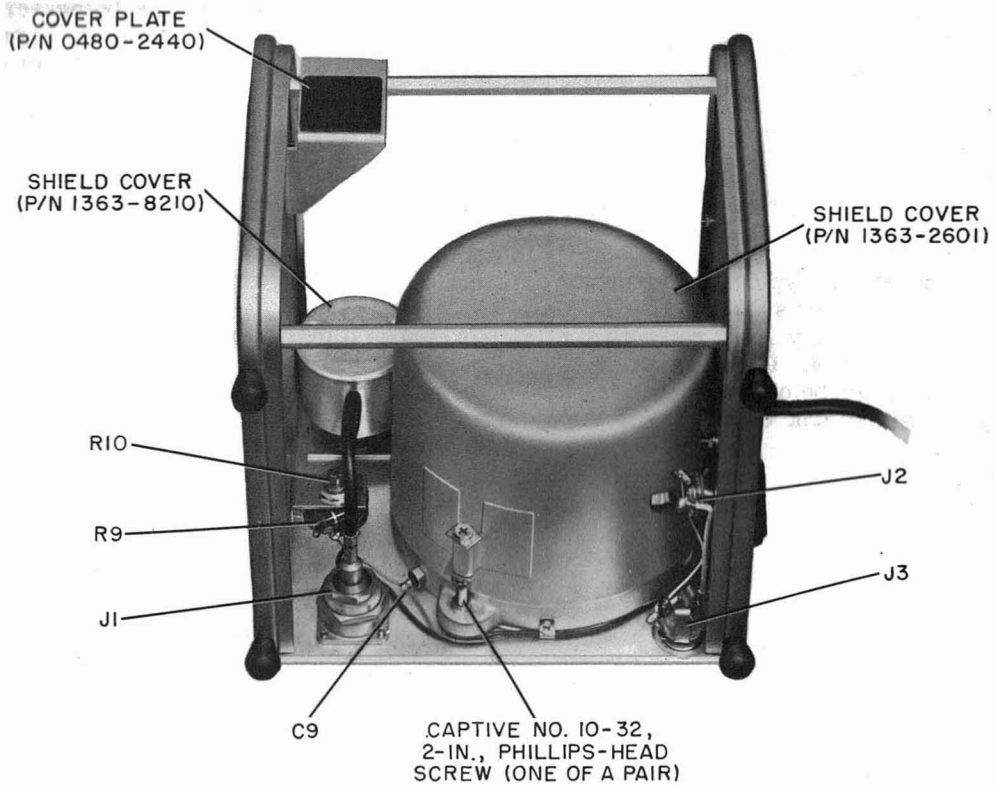

Figure 6-3. Interior bottom view with shield covers installed.
If the 1363 Oscillator performs outside of specification, as determined by use of paragraph 6.3, the procedures below can be used to isolate the trouble to a defective assembly or part. Suggestions for trouble analysis are given in Tables 6-2 and 6-3. The former is based on operating parameters, the latter on cold resistances. (Refer to Figures 6-3 and 6-4 and to the schematic diagram, Figure 6-6, at the end of the book.) Instructions for adjustment and repair are given in subsequent paragraphs of Section 6.
e. Connect a 0-100 mA VOM at the MOD jack, and apply power using a 1264 or 1267 Power Supply. (If using a 1264, set the function selector to CW.) With a 50- $\Omega$  load connector and the output-LEVEL control fully cw, tune to the frequency at which plate current is maximum, usually near 200 MHz, and adjust R10 with a screwdriver (refer to Figure 6-3)